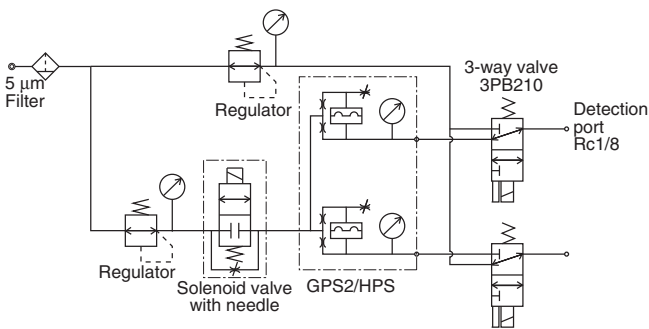
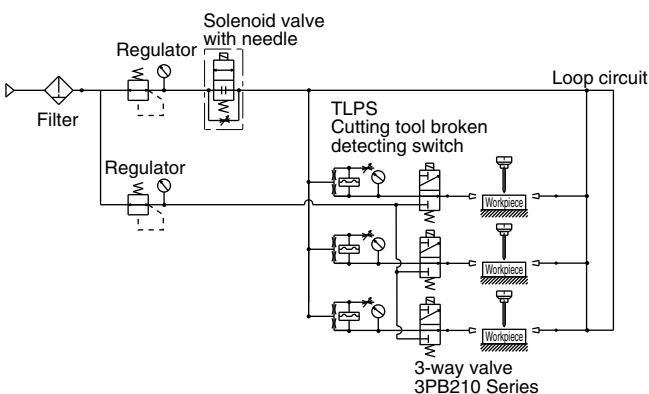

Fig. 3 Circuit for detection and air blow
Fig. 4 With air blow used by several applications
- Swarf and grinder chips, etc., could clog the nozzle. Increasing the supply pressure to blow these out has no effect. Provide a 3-way valve on the pressurized nozzle as shown below (GPS2/HPS: Fig 3, TLPS: Fig 4). The orifice for the 3-way valve should be 2.5 mm diameter and over.
- Use a 4 mm bore and 6 mm outer diameter pipe. When using 3, 4, or 5 stations, try to keep the injection rate of each nozzle as uniform as possible. When branching, use a 8mm outer diameter, 6mm bore main pipe as shown in Fig. 4, and create a loop circuit.